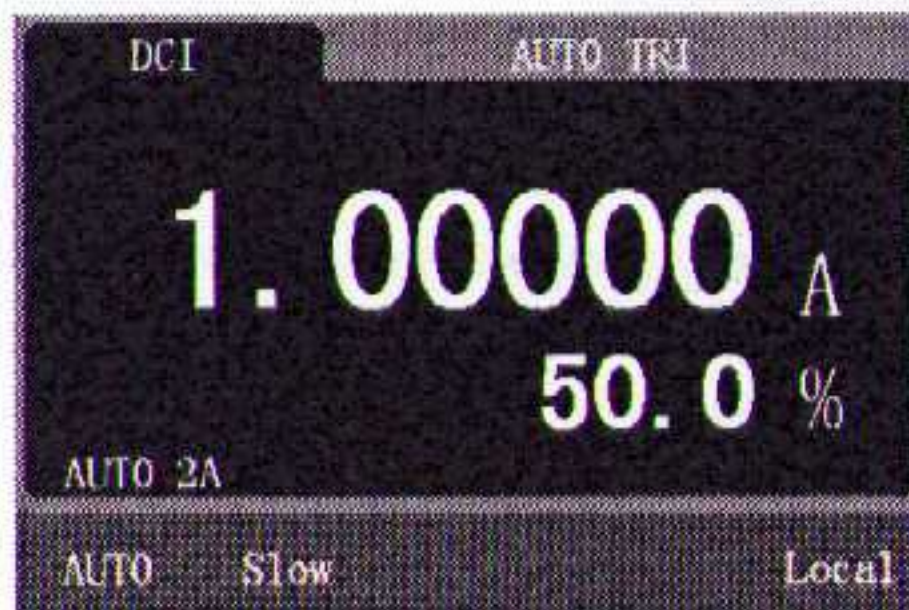

Figure 4-5 Measurement interface
1. Press  to select the DC current measurement function. The measurement interface is shown in Figure 4-5.